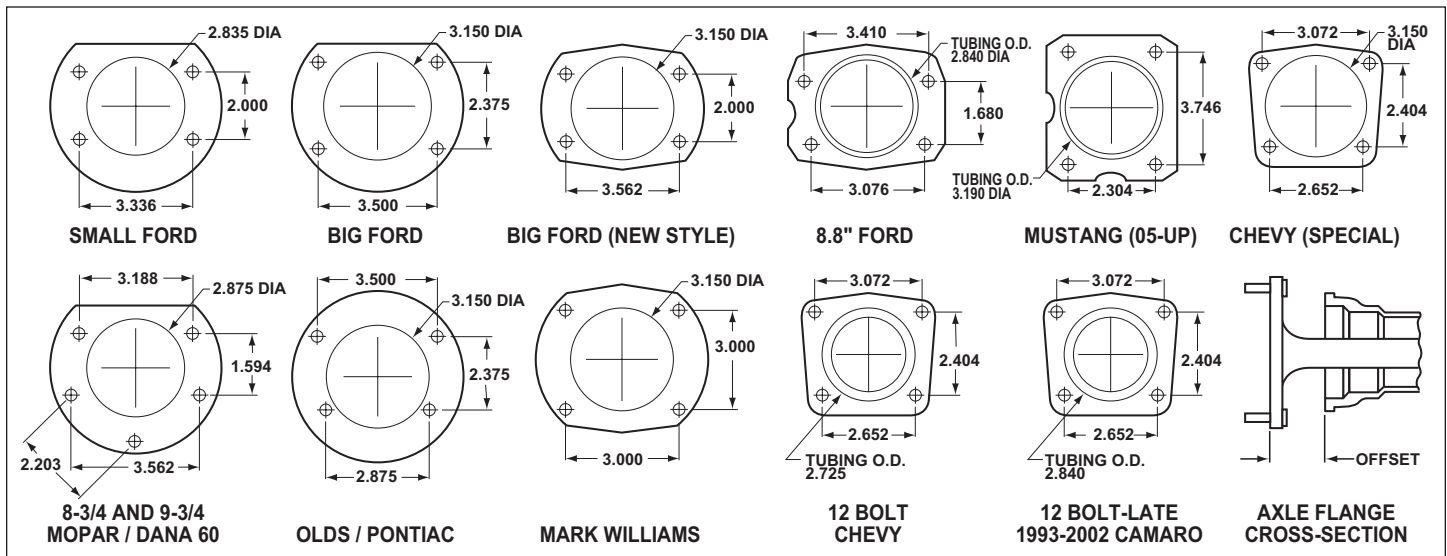

Figure 7. Rear Housing Flange Chart and Axle Flange / Offset Cross-Section
- Dimension from wheel side of axle flange to wheel side of axle housing flange (see Figure 7, lower right hand corner). This dimension is critical to ensure proper alignment of the rotor to the caliper, and should match offset given in the kit description.